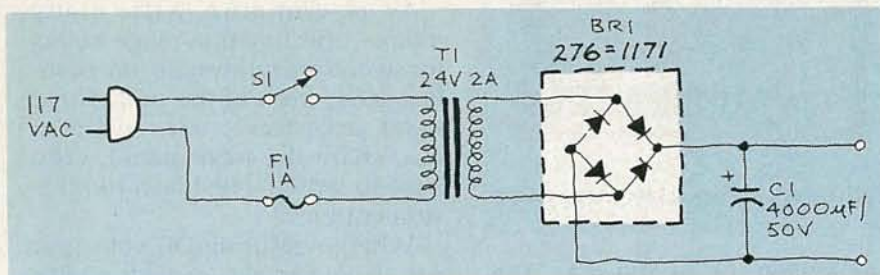

FIG. 1
One of our readers, Carl Muller (CA), is looking for a power supply to operate a 24-volt, 2-amp DC motor. He specifies that the circuit contain a full-wave bridge rectifier. Well, Carl, because the voltage and regulation do not appear to be critical, the circuit in Fig. 1 should fill the bill.
Note the ratings given for the components. If you can't find those values, use the next largest values you can find (except the fuse, of course). The bridge itself can be made of individual diodes (arranged in the same way) or you may prefer the packaged type (which is nothing more than a four-diode arrangement sealed in a plastic case). In the latter category, a 4-amp, 100-PIV (*Peak Inverse Voltage*) full-wave bridge like the Radio Shack 276-1171 shown in Fig. 1, will probably work all right. But we'd prefer the extra margin of safety provided by 6-amp diodes.
That conversion is called "rectification." There are several rectifier arrangements that may be used—*half-wave*, *full-wave*, and *full-wave bridge*. The power supply shown in Fig. 1 is a good example; it uses the full-wave bridge arrangement. Note that the circuit does two jobs: First, the transformer reduces the 117-volt AC to 24 volts. Second, the bridge rectifier takes in that lower AC and "spits out" a proportionate DC voltage. The capacitor simply smoothes (filters) out the ripple a bit.